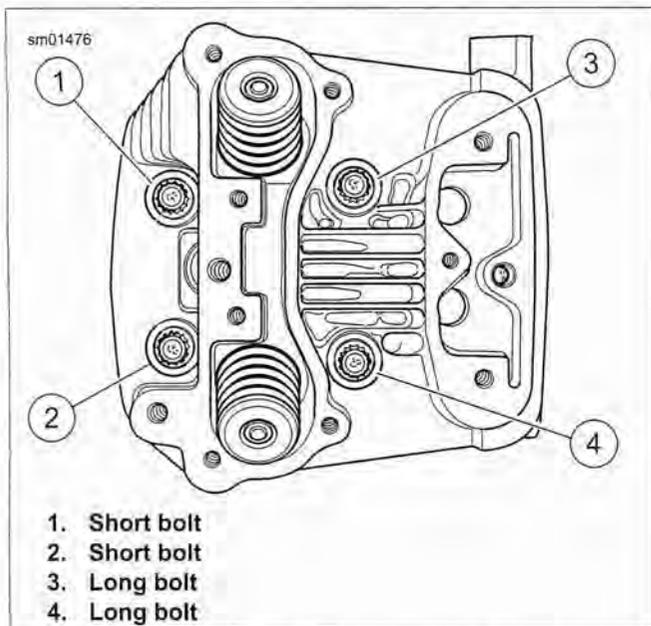
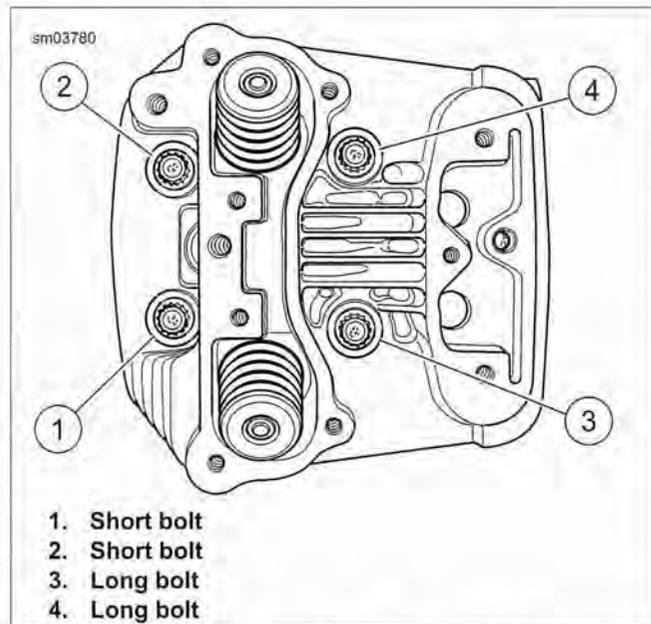

Figure 3-44. Front Cylinder Head Screw Loosening/Tightening Sequence (typical)
Figure 3-45. Rear Cylinder Head Screw Loosening/Tightening Sequence (typical)
See Figure 3-44 or Figure 3-45. To avoid distortion of the cylinder head, cylinder and crankcase studs, gradually loosen (or tighten) head screws in the sequence shown.
2. See Figure 3-44 and Figure 3-45. Loosen each head bolt 1/8-turn following the sequence shown.